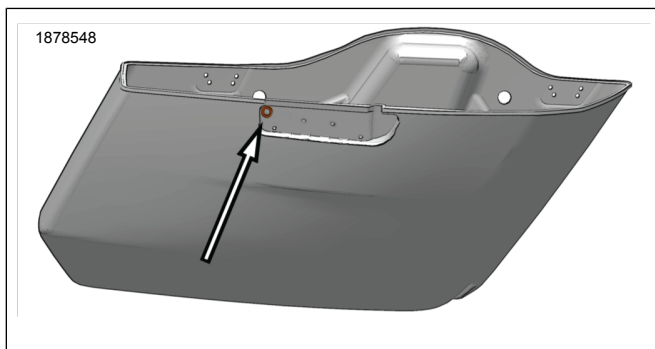

Figure 2. Saddlebag Top Hole Drill Location
1. See Figure 2. Drill top saddlebag wire pass-through.